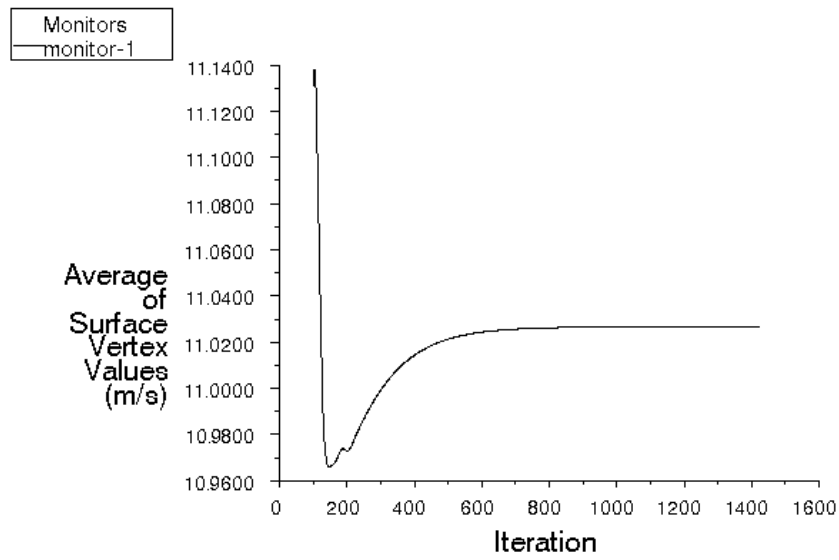

Figure 2.4: Convergence History of Velocity Magnitude on point-1
10. Iterate the solution till all the monitors reach a constant value, as shown in Figures 2.4 and 2.5.